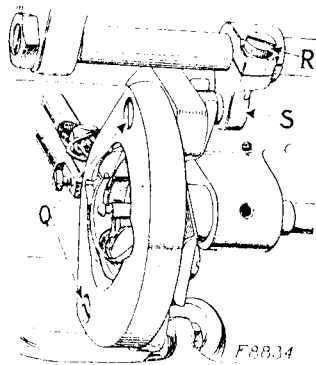

FIG. 16. ADJUSTMENT FOR RAISING AND LOWERING THE FEED DOG
Turn the balance wheel over toward you until the needle bar moves up to its highest point. Take out the two screws (Q, Fig. 16) which hold the shuttle race in position and remove the shuttle race. The shuttle may now be removed from the shuttle race.
When replacing the shuttle race, have the needle bar at its highest point and turn the shuttle in the race so that it correctly engages the shuttle driver, then securely fasten the shuttle race in position by means of the two screws (Q, Fig. 16).
The feed lifting rock shaft crank (S, Fig. 16) should be set so that when it raises the feed bar to its highest point, slightly less than the full depth of the teeth project through the slots in the throat plate. To raise or lower the feed dog, loosen the clamping screw (R, Fig. 16) and move the feed lifting rock shaft crank (S) until the feed dog is set at the required height, then securely tighten the clamping screw (R).